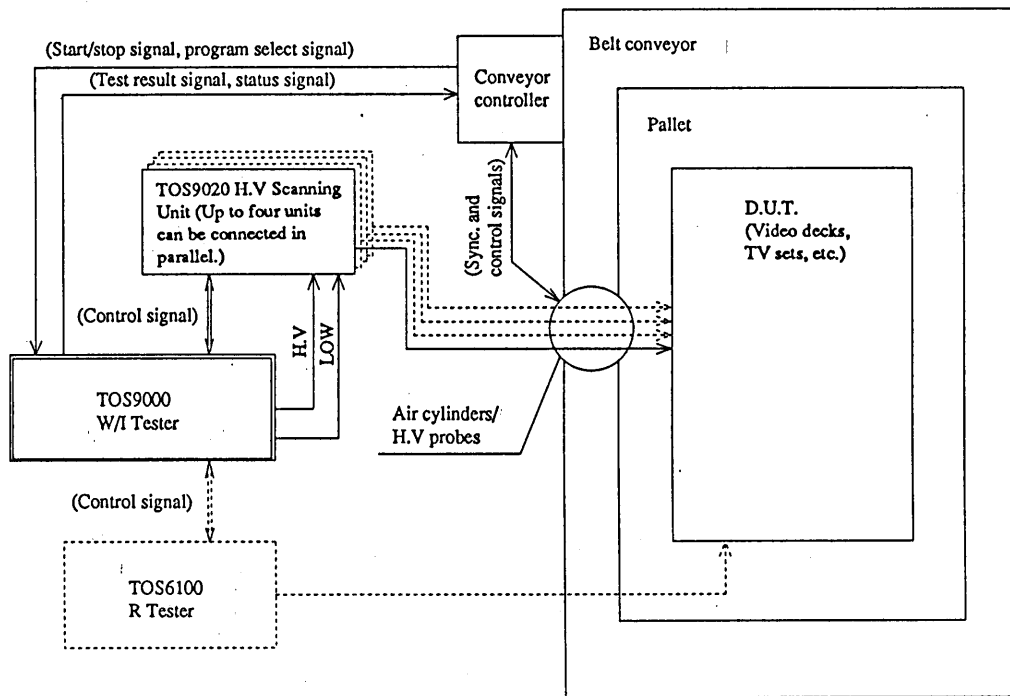

Figure 1.2
**Example 2:** An unmanned automatic test system is made with using the programming function, remote control function and signal output function of the TOS9000, in addition to the functions of the system of Example 1. (Figure 1.2)